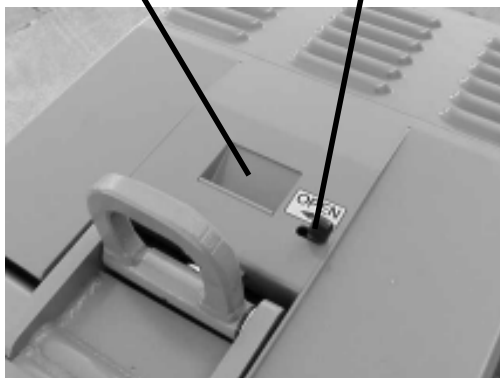

Figure 12. Opening the Front Cover
2. Open the front cover of the machine by moving the lever to the "OPEN" position then slowly lifting the hook on the cover (Figure 12).